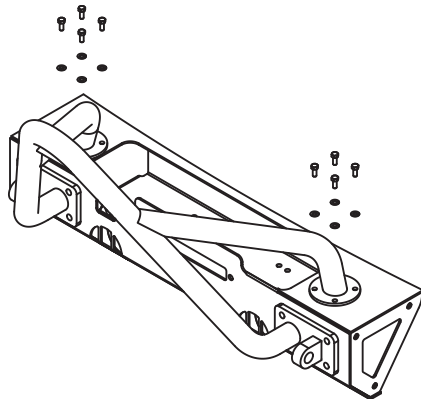

Figure 2a
2. Install 8 top bolts (provided with center section) through the stinger and into the center section (Figure 2a). Do not tighten bolts yet. Install 8 front bolts (provided with center section) through the stinger and into the center section (Figure 2b).